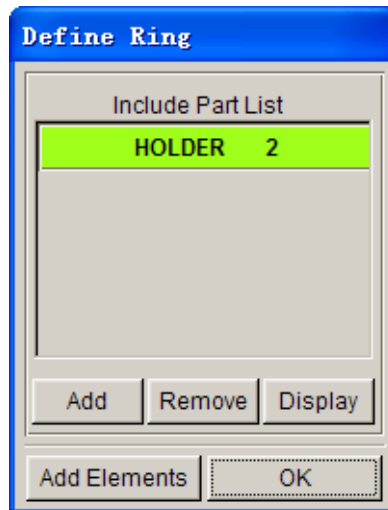

Figure 3.25: Define Ring dialog box
- 13) Click “OK” to return to the Define Ring dialogue window, user can find the selected target part has been added to the Include Part List. See figure 3.25.